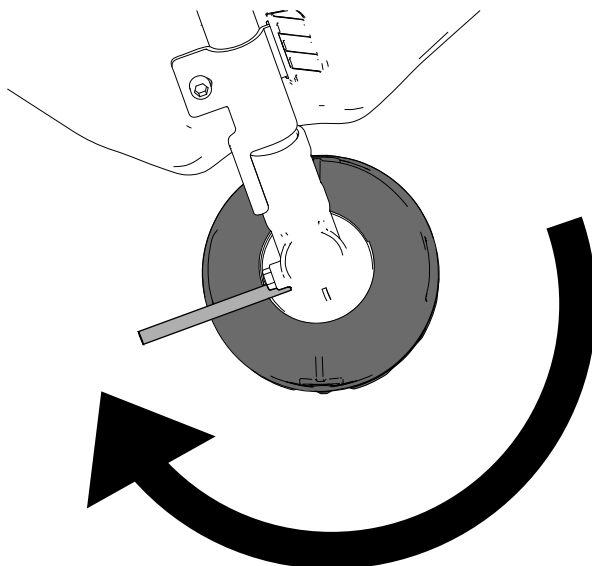

Figure 17
4. With the metal rod securing the trimmer head, rotate the trimmer head clockwise to remove it from the threaded gearcase post (Figure 17).
4. Remove the plug from the side of the trimmer (Figure 17).